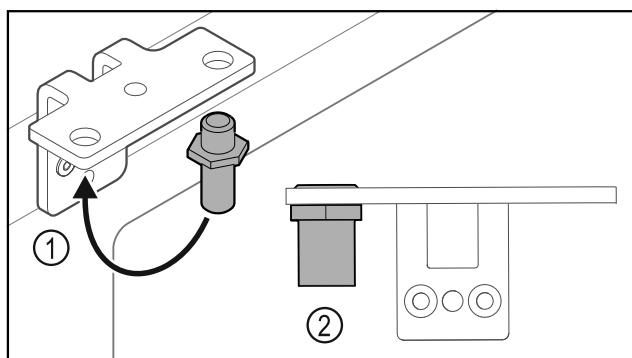

Fig. 34
- ▶ Put the pin back into the hinge Fig. 34 (1).
- ▶ Tighten the pin Fig. 34 (2) to a **torque of 12 Nm**.